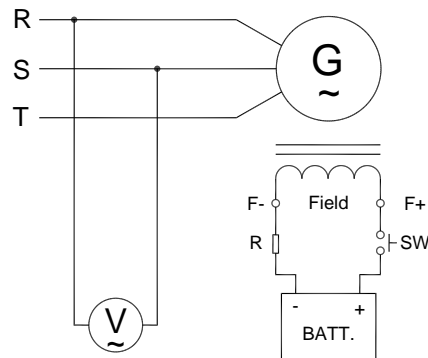

Figure 2 Manual Field Flash
- 3.2.1 Total of 3 sets of independent sensing inputs, each input voltage equals to 120 / 240V (Center), can be series into Y or Δ to connect to the generator output (3 Phases) for example R-T, T-S, S-R, or joint connected into a single phase sensing (See Figure 2 to 13).
- 5.2.1 Shut down generator, disconnect the wiring between AVR and generator then flash the field. Flashing duration = 3 seconds. (See wiring in Figure 2)
- 5.2.2 Restart generator and measure the residual voltage by AC Voltmeter, if it is still less than 5 Vac, repeat the previous process, after several times, the residual voltage still cannot be built, Kutai EB500 is strongly recommended, see Figure 2.